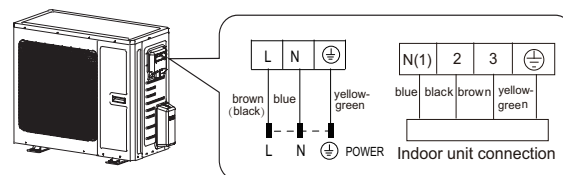

Fig.21
1. Remove the wire clip; connect the power connection wire to the wiring terminal according to the color; fix them with screws.(As show in Fig.21)